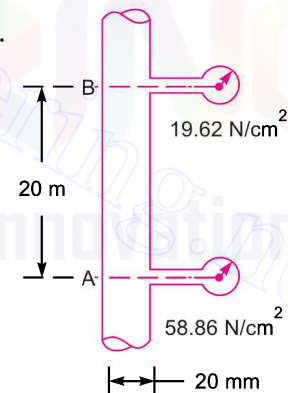

Fig. 9.5
**Problem 9.4** Crude oil of  $\mu = 1.5$  poise and relative density 0.9 flows through a 20 mm diameter vertical pipe. The pressure gauges fixed 20 m apart read  $58.86 \text{ N/cm}^2$  and  $19.62 \text{ N/cm}^2$  as shown in Fig. 9.5. Find the direction and rate of flow through the pipe.